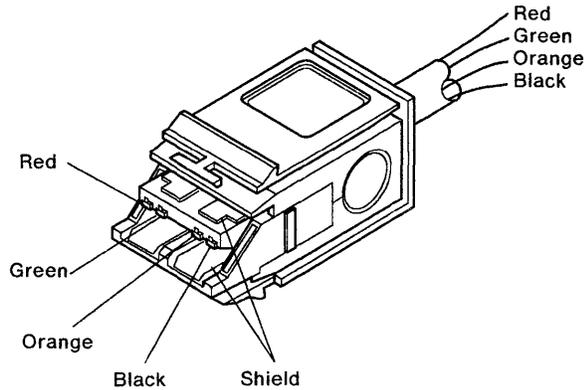
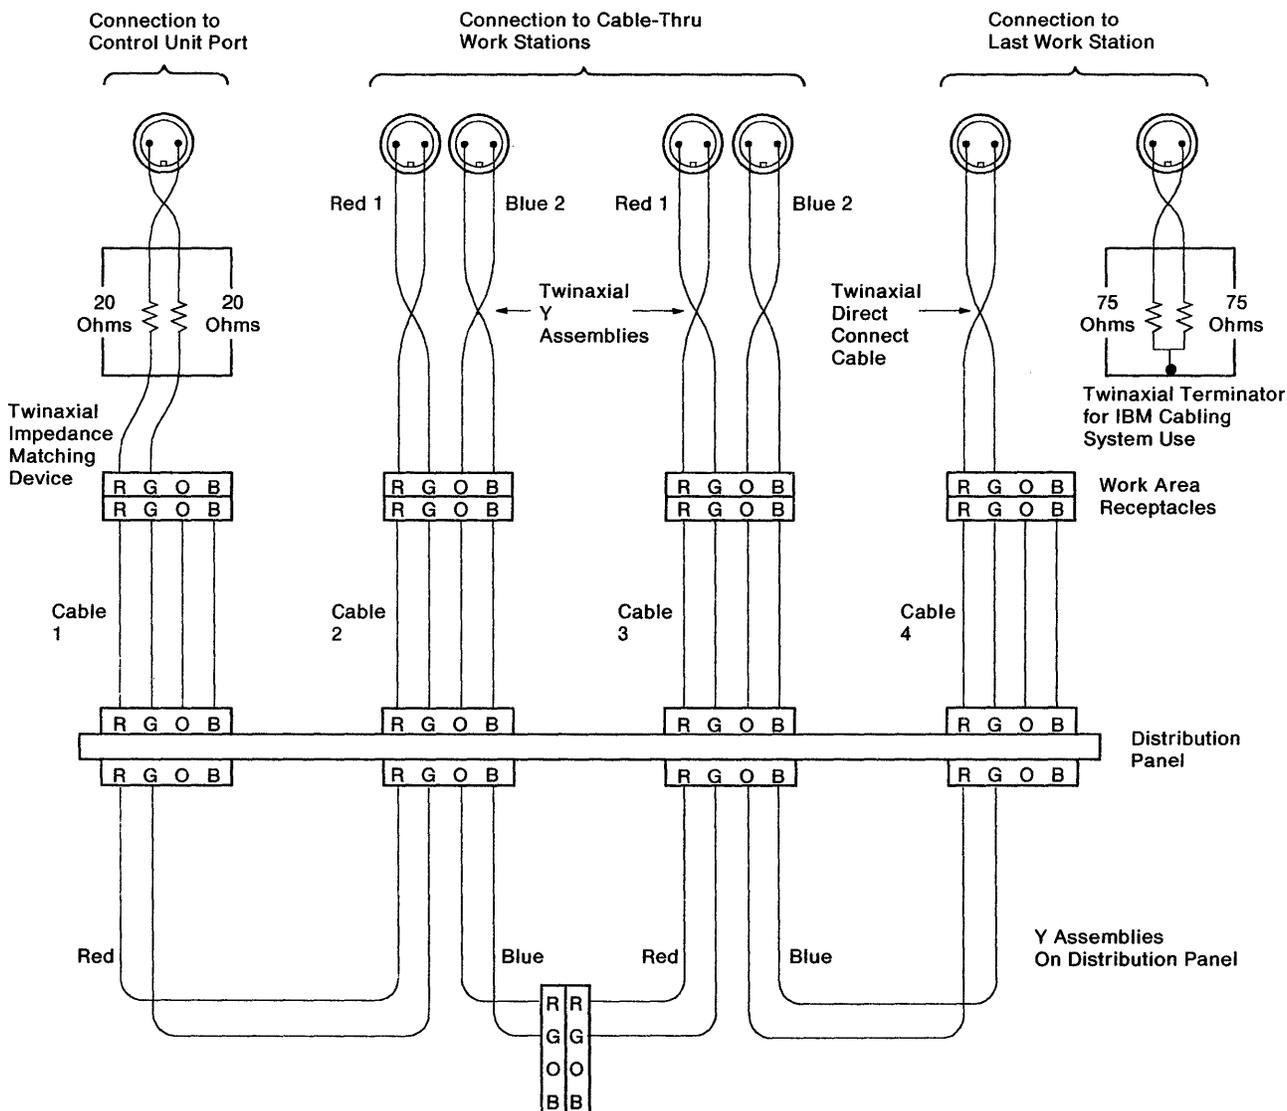

Figure 3-73. Test Connector
Figure 3-76. Schematic of a Simple IBM Cabling System Installation Using Twinaxial Accessories
1. Install a test connector (see Figure 3-73) on the IBM Cabling System connector of the impedance matching device or direct connect cable.
A typical IBM Cabling System data path is shown in Figure 3-76. A test connector like the one shown in Figure 3-73 on page 3-139 is needed for these tests.